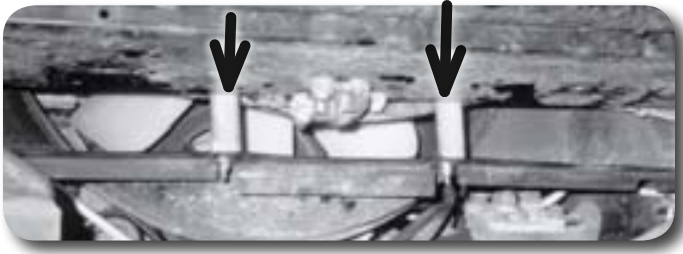

Figure 20
49. Using "L" brackets as templates, mark and drill two 5/16" holes in the fan shroud. Mount fan shroud to the brackets with the provided 1/4" x 1" bolts, nuts and 1/4" USS washers **Figure 20**. Torque hardware to 5 ft-lbs.